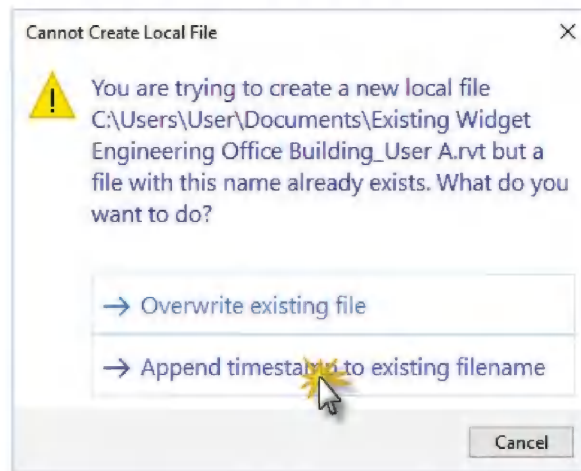

FIGURE 16-4.17 Cannot Create Local File dialog
40. **USER A:** Click **Append timestamp to existing filename** (Figure 16-4.17).